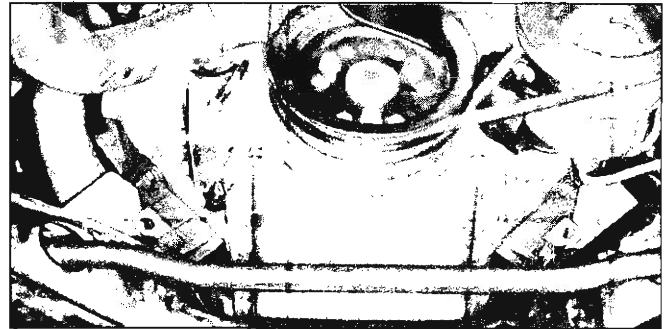

Fig. 8V—Engine Blocked for Pan Removal
12. Using a suitable jack (and a block of wood to prevent damaging oil pan), raise engine enough to insert 2" x 4" wood blocks under engine mounts (fig. 8V), then lower engine onto blocks.